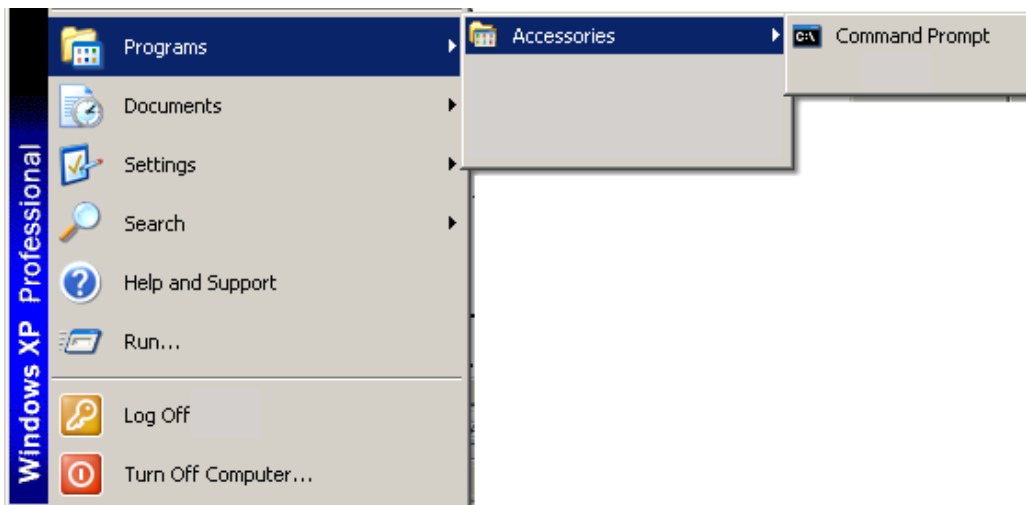

Figure II-24. Accessing Command Prompt
- 1) The Command Prompt window is opened by clicking **Start > Programs > Accessories > Command Prompt** (Figure II-24).